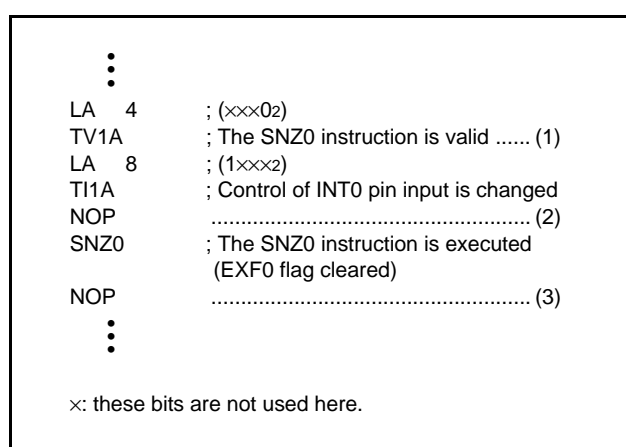

Fig 24. External 0 interrupt program example-1
- Depending on the input state of the P20/INT0 pin, the external 0 interrupt request flag (EXF0) may be set when the bit 3 of register I1 is changed. In order to avoid the occurrence of an unexpected interrupt, clear the bit 0 of register V1 to "0" (refer to (1) in Figure 24) and then, change the bit 3 of register I1. In addition, execute the SNZ0 instruction to clear the EXF0 flag to "0" after executing at least one instruction (refer to (2) in Figure 24).
Also, set the NOP instruction for the case when a skip is performed with the SNZ0 instruction (refer to (3) in Figure 24).